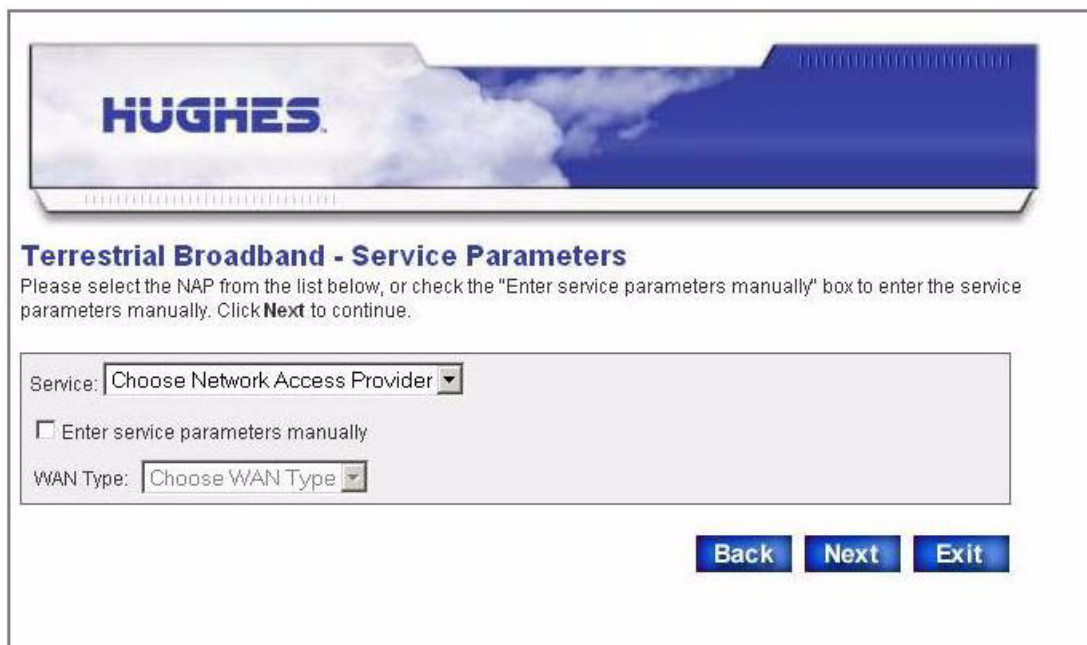

Figure 15: Auto selection - Service Parameters
2. The NAP Service Parameters screen displays as shown in Figure 15.